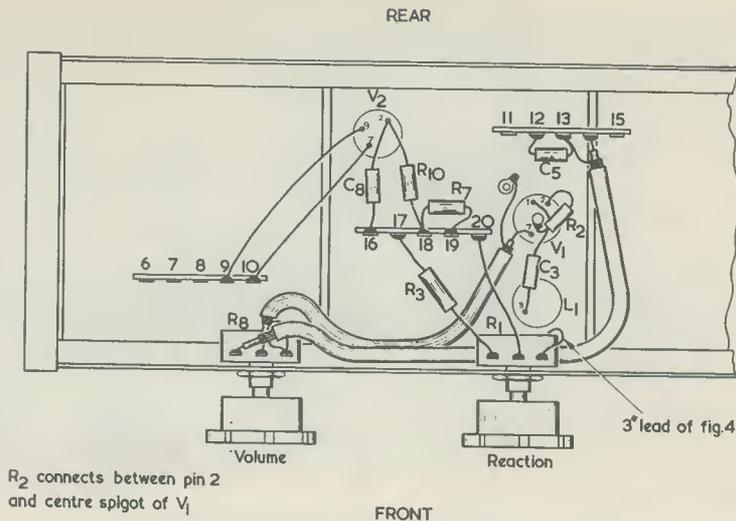

Fig. 5. Completing the under-chassis wiring
filed or cut off (in the case of a pip) or bent outward (in the case of a lug) so that the potentiometer can sit squarely. When mounted, the potentiometer shaft length should be such that, when one of the smaller K402 knobs is fitted to it, the rear of the knob is in the same plane as the rear of the tuning drive knob. Thus, the potentiometer has to be temporarily fitted to find the required shaft length, then removed so that the excess shaft material can be cut off with a hacksaw. (Remember the point made last month that it may be necessary to apply a file to the inside of the knob bush to remove proud metal from the grub screw holes). When the potentiometer is finally mounted, its tags should project away from the Chassis Plate, as illustrated in Fig. 5. After mounting, fit the knob.
54. Following the route shown in Fig. 5 and keeping it close up against the underside of the chassis, run the screened lead to R_8 . At R_8 , connect the centre conductor to the centre tag of R_8 . Solder at this tag. Connect the braiding to the right hand tag (potentiometer shafts pointing towards the reader).
56. Following the route shown in Fig. 5 and keeping it close up against the underside of the chassis, run this second screened lead to R_8 . Connect its centre conductor to the left hand tag of R_8 , and solder at this tag. Connect the braiding to the right hand tag of R_8 .
Turn the reaction control, R_1 , fully anticlockwise. With the finger, touch the tag of the volume control, R_8 , which connects to the non-earthed end of the track. (This is the extreme left-hand tag in Fig. 5). A hum should be heard from the loudspeaker, varying in intensity as the volume control is operated. This "grid hum" test is very well known to service engineers and is frequently employed in rough checks of valve a.f. amplifier stages. The inexperienced should not use this test in equipment employing chassis which are connected to one side of the mains and, obviously, care should be taken not to touch h.t. points.